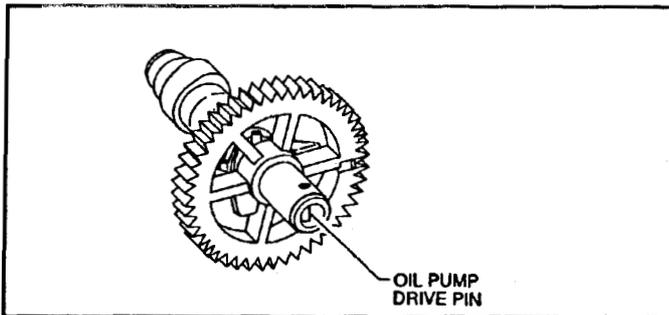

Figure 84
1. Separate the gerotor set and insert the pump drive assembly so the slot in the shaft engages the drive pin in the end of the camshaft. See Figure 84.